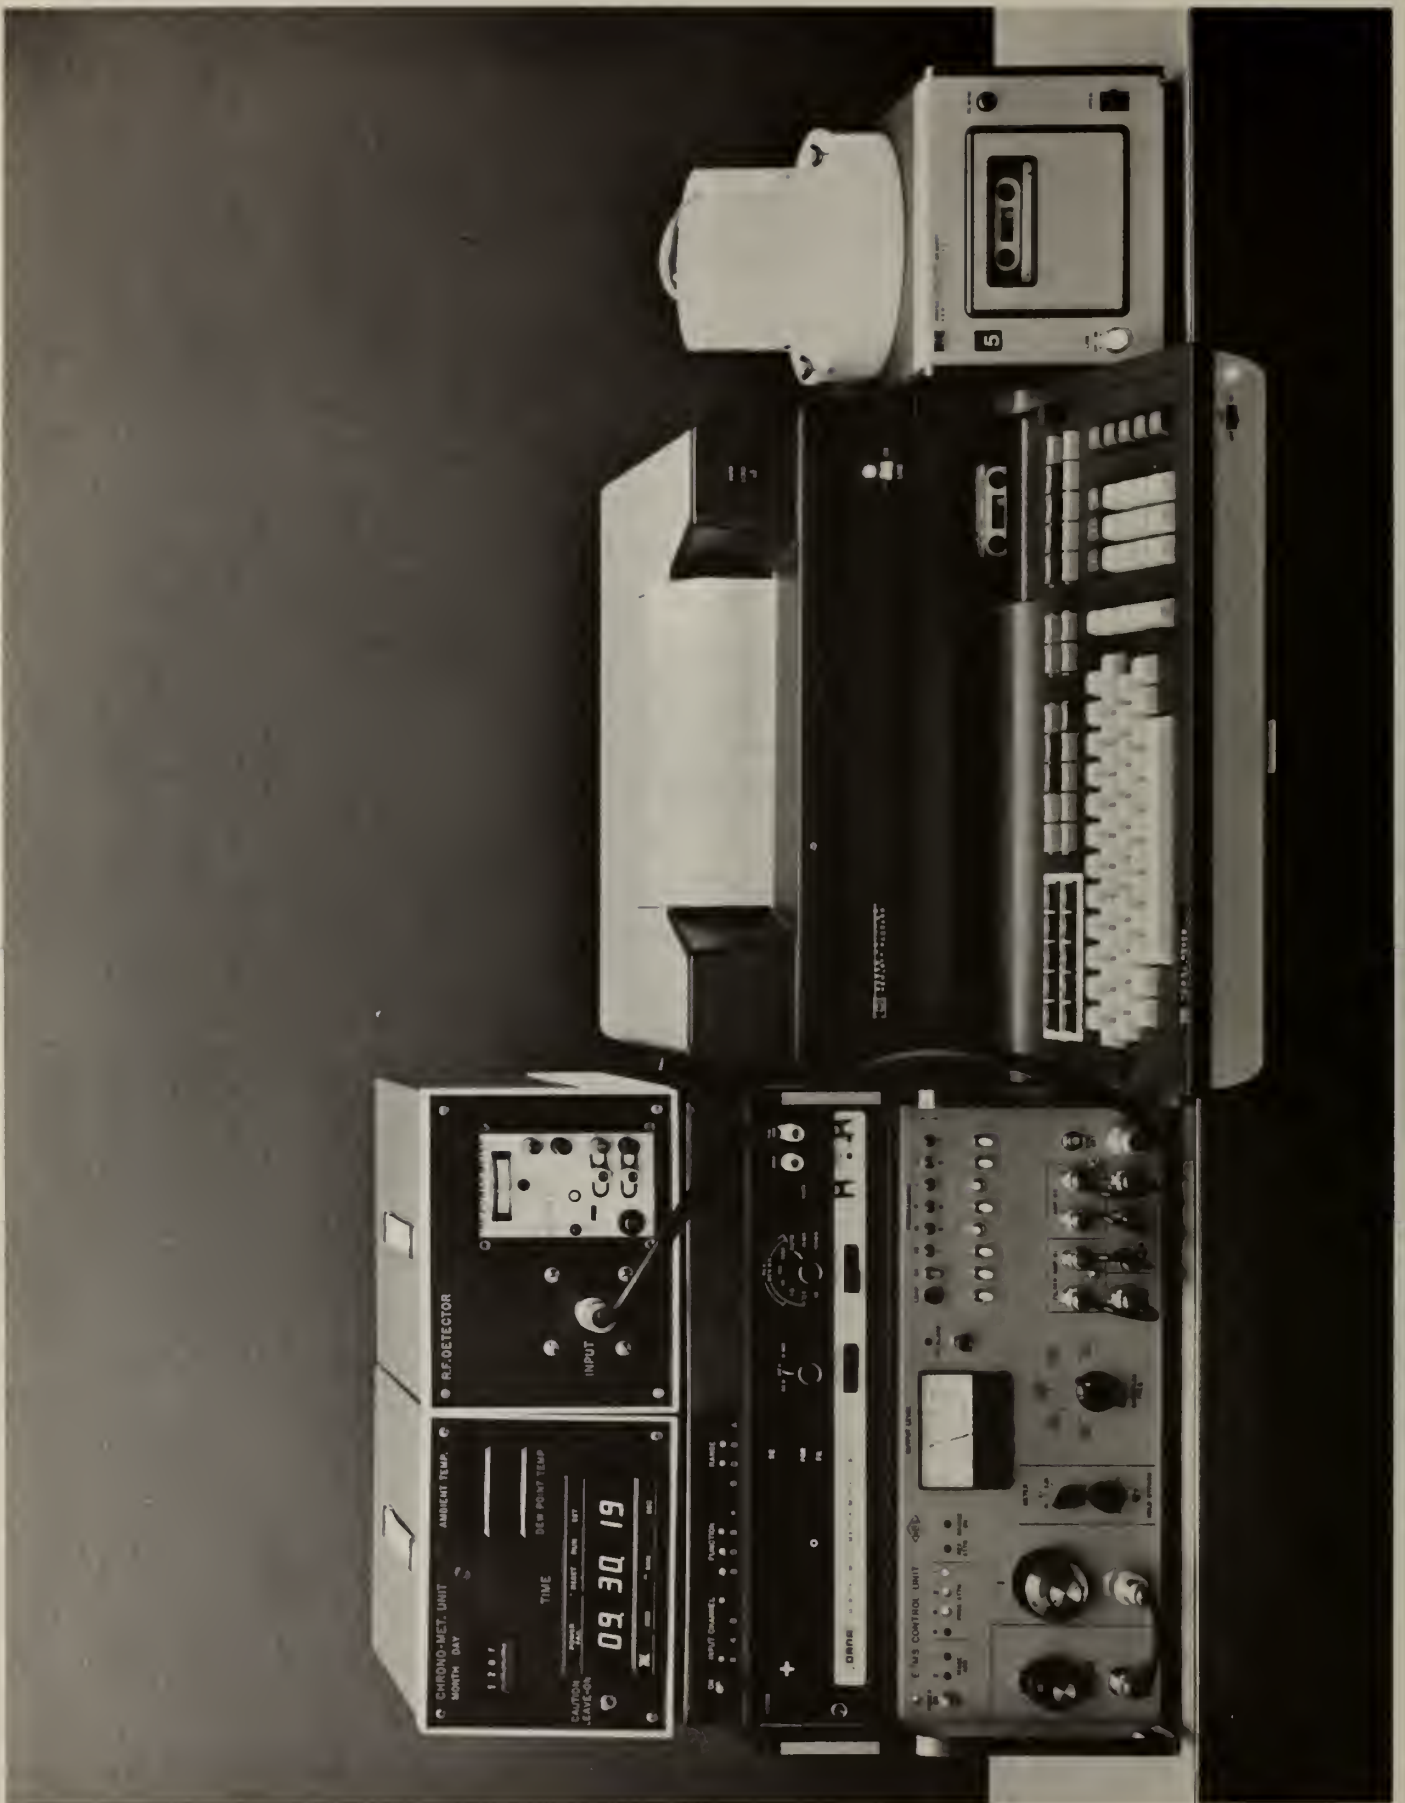

Figure 1. ETMS System Equipment.
The Earth Terminal Measurement System (ETMS) is a portable automated measurement system (figure 1) developed around the NBS Type IV self-balancing power meter [1]. The system measures pertinent power ratios used in determining various performance parameters of satellite receiving earth terminals.
Figure 1 is a photograph of the units of the ETMS system. The system is shipped in six (6) transit cases labeled as follows: